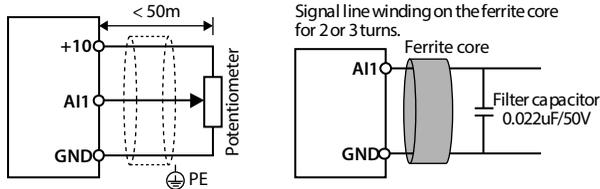
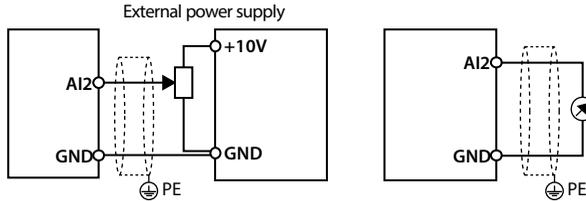
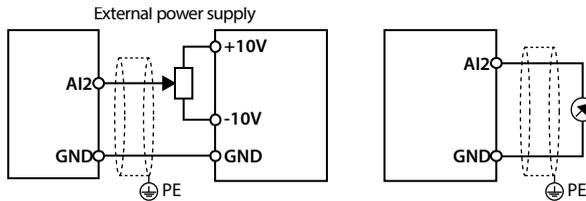

Figure 4-10 AI1 connection
Figure 4-11 AI2 connection (7.5 - 75kW)
Figure 4-12 AI2 connection (90 - 400kW)
The AI1 is voltage input and the range is 0 - 10V, as shown in Figure 4-10.
2. In serious interference occasions, the analogue input signal should add filter capacitor and ferrite core, as shown in Figure 4-10.
AI2 can be selected as voltage input and the range is 0 - 10V. When selecting internal +10V of HD3N, refer to Figure 4-10; selecting 10V external supply, refer to Figure 4-11.
AI2 can be selected as current input and the range is 0 - 20mA, refer to Figure 4-11.
AI2 are selected as voltage input and the range is -10 - +10V. When selecting internal +10V of HD3N, refer to Figure 4-10; selecting +/-10V external supply, refer to Figure 4-12.
AI2 are selected as current input and the range is 0 - 20mA, refer to Figure 4-12.